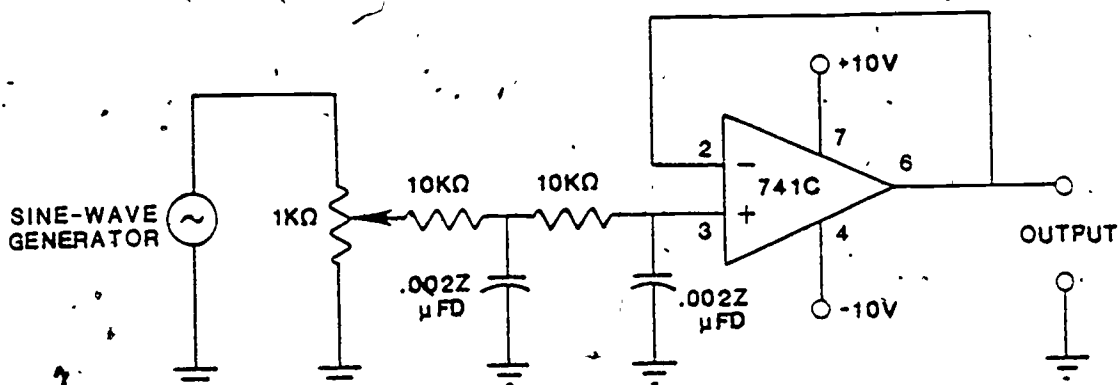

Figure 19. Noninverting Low Pass Filter,
1. Construct the circuit shown in Figure 19.